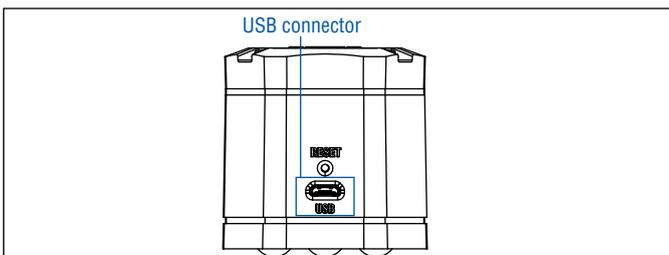

Fig. 116: USB port on the TempoLink® smart assistant
1. Connect the USB cable with the micro USB connector to the port labeled “USB” on the TempoLink® smart assistant (Fig. 116).